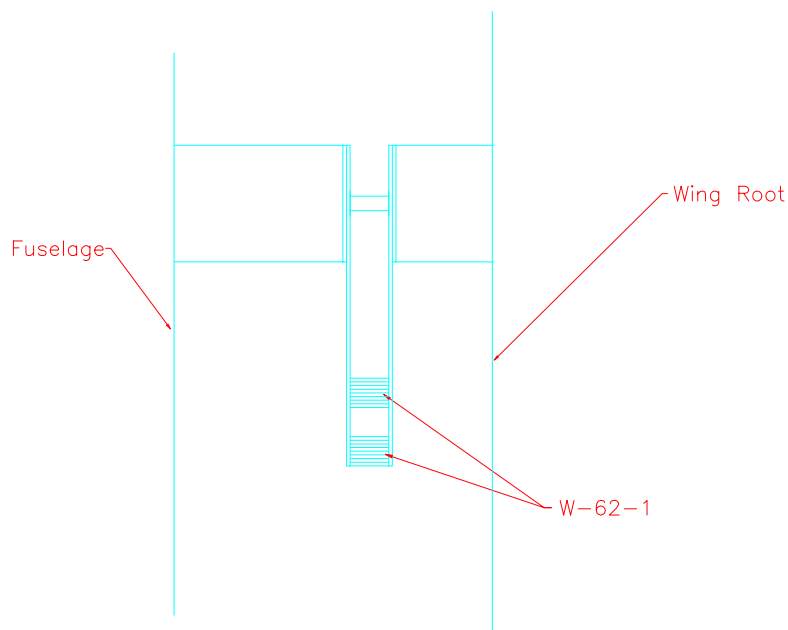

Figure 15.8.14
32) With torque tubes tightly on the inside end plugs, install spacers (W-62-1) between the wing horn and the fuselage horn. It may be necessary to sand the spacers. Figure 15.8.14.